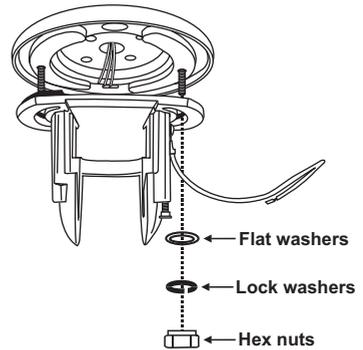

Fig. 9
2. Attach the hanger bracket to the mounting plate using the two hex nuts and washers and lock washers provided. (Fig. 9)